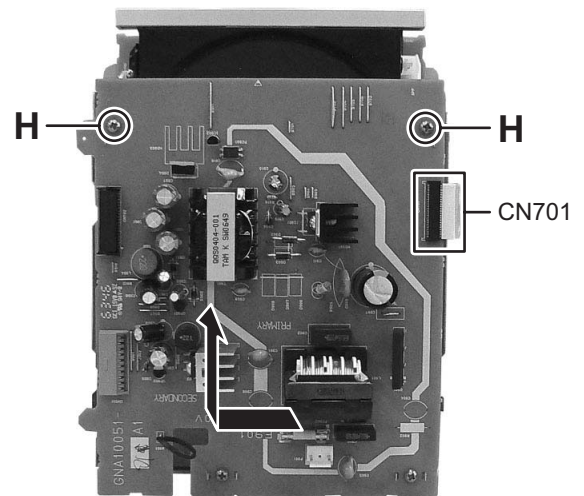

Fig.11
### 3.1.6 Removing the Power board assembly (See Fig.11)
### 3.2.7 Removing the feed motor (See Fig.11 to 13)
- (1) Remove the yellow wire from solder part **q** of the CD servo board from upper side of traverse mechanism. (See Fig.11)
- (2) Remove the white wire from solder part **r** of the CD servo board. (See Fig.11)